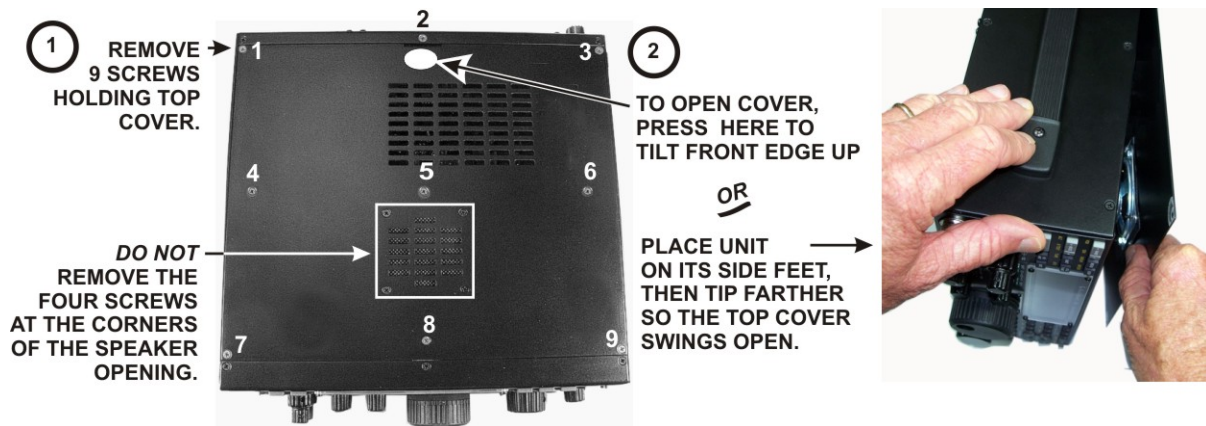

Figure 1. Removing the Top Cover.
- Remove the nine screws to free the top cover as shown in Figure 1. After the cover is open, lift it gently to reach the speaker wire connector. Unplug the speaker then set the top cover aside in a safe place.
Position the top cover on the K3/K3S. Note that the tab on the back center of the top cover goes under the rear lip on rear panel. Secure the top cover with the nine 4-40 3/16" (4.8 mm) black flat head screws you removed earlier (see Figure 1 on page 7 for the screw locations).